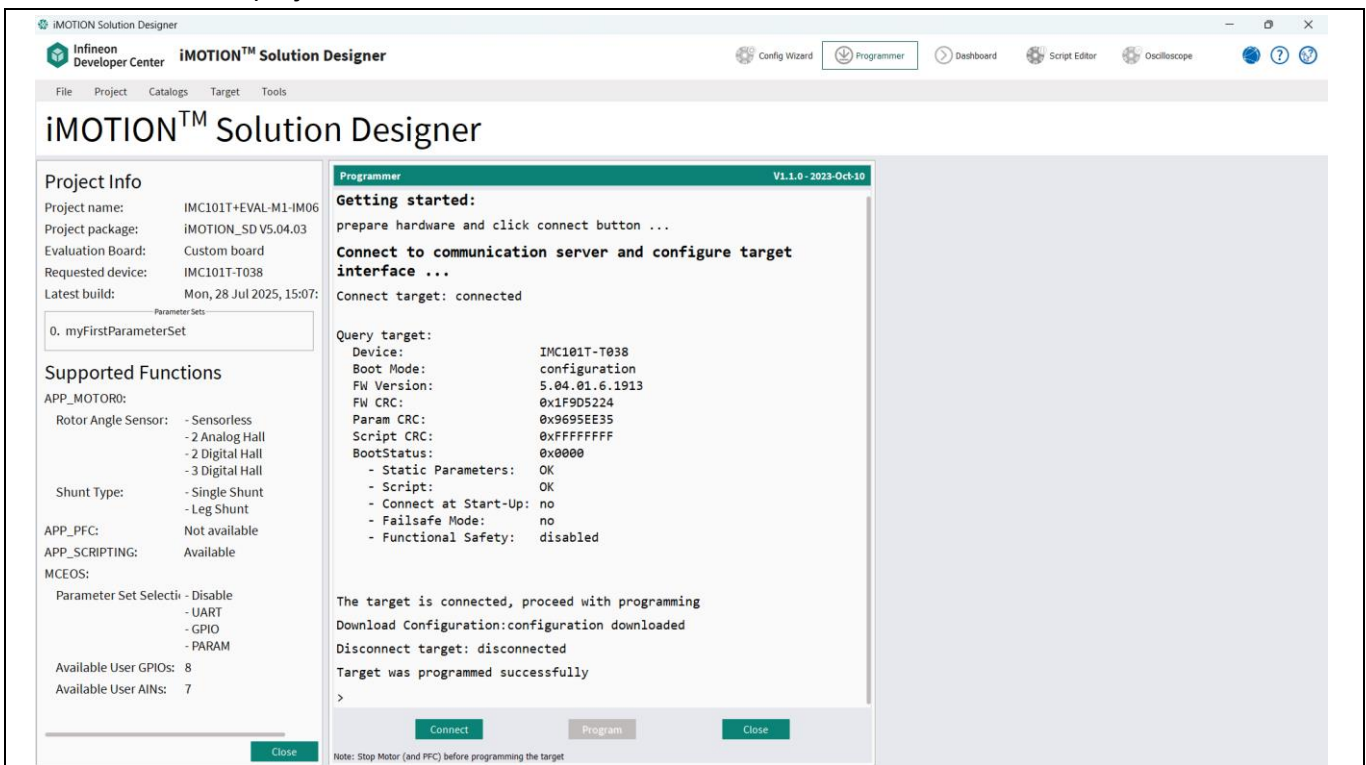

Figure 26 Programming
- Notes: if you encounter connection issue after clicking “Connect” button, please power off EVAL-M1-101T first, then click “Connect” button in Figure 26 and power on EVAL-M1-101 in 2~10 seconds. Please try again if fails.*
- Close programming window in Figure 26. Click “Tools -> Dashboard” and click “no” on popup window “Download Parameter to target before switching to Dashboard” to enter dashboard window. Then you can change “Target speed” and click “Start Motor” to run a motor for evaluation test.